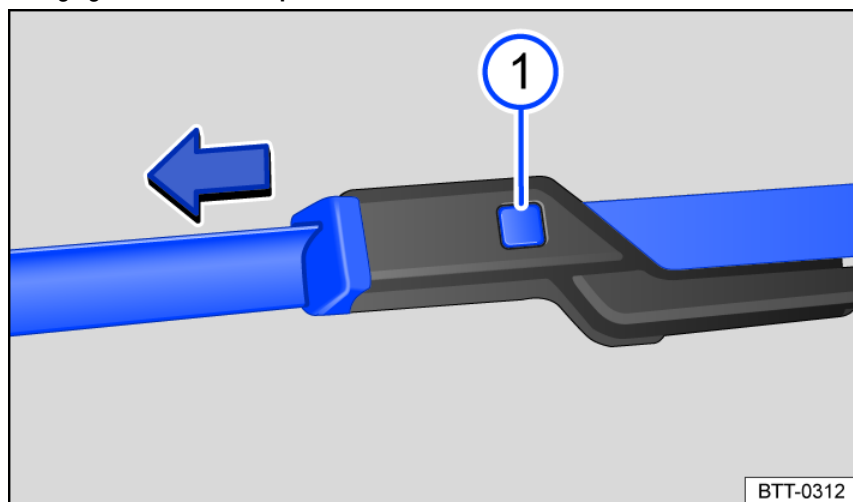

Fig. 169 Changing the windshield wiper blades.
3. Press and hold the release button and remove the wiper blade at the same time in the direction of the arrow *fig. 169* .